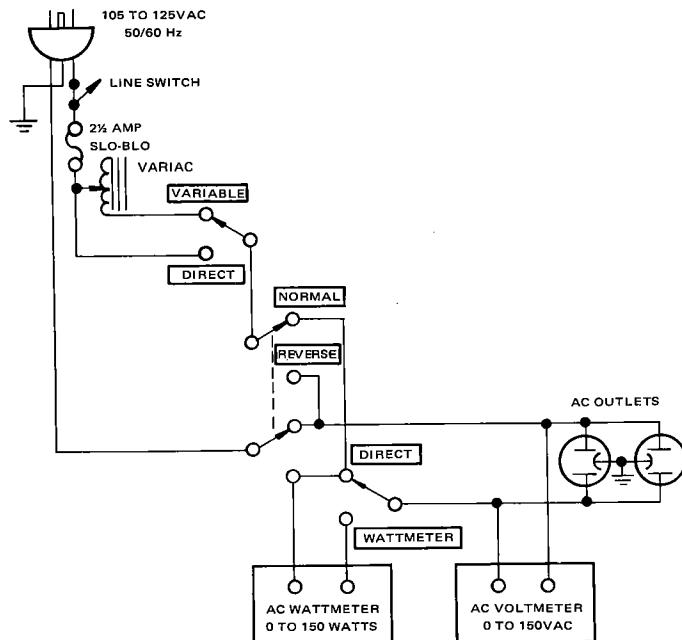
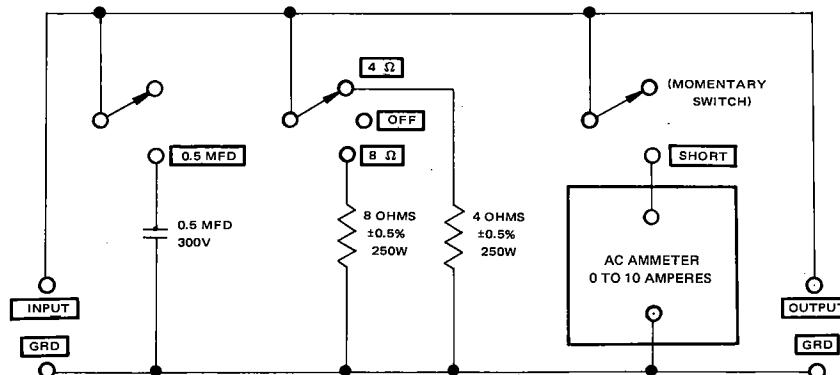

Figure 1. AC Power Control Box Simplified Schematic
Figure 2. Amplifier Output Load Box Simplified Schematic
Table 1 lists the test equipment required for servicing the Model 1070 Stereo Console Amplifier. The wattmeter, ac voltmeter, and variable autotransformer may be assembled as a test fixture as shown schematically in Figure 1. The load resistors and ac ammeter may be assembled into a second test fixture as shown in Figure 2.
| AC Power Control Box | Optional Item. Fabricate in accordance with Figure 1. | Monitors and controls primary power for amplifier. |
| Amplifier Output Load Box | Optional Item. Fabricate in accordance with Figure 2. | Provides various amplifier loads and can monitor shorted output. |
1. Make the test setup shown in Figure 1 with the instrument controls set in the following positions: